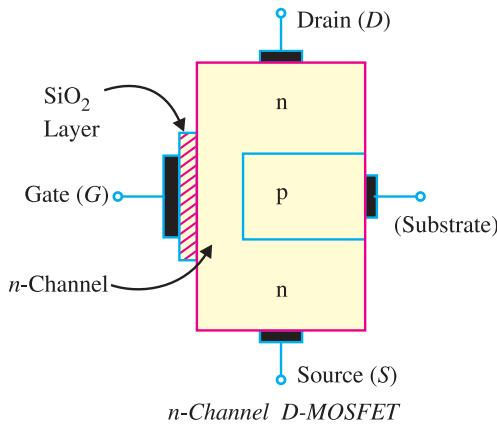

Fig. 19.43
1. D-MOSFET. Fig. 19.43 shows the constructional details of *n*-channel *D-MOSFET*. It is similar to *n*-channel *JFET* except with the following modifications/remarks :
(i) The *n*-channel *D-MOSFET* is a piece of *n*-type material with a *p*-type region (called *substrate*) on the right and an *insulated gate* on the left as shown in Fig. 19.43. The free electrons (Q if it is *n*-channel) flowing from source to drain must pass through the narrow channel between the gate and the *p*-type region (*i.e.* substrate).